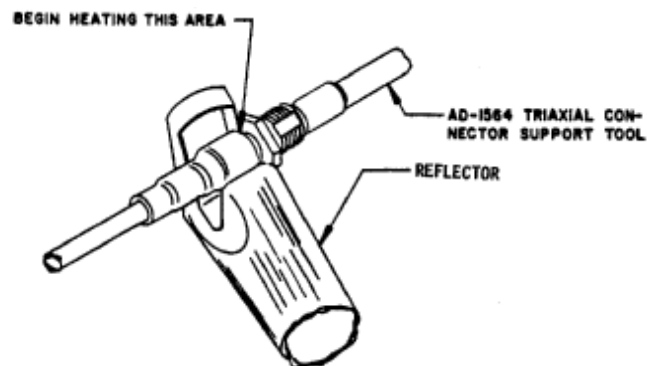

Figure 5-19
- Position the assembly in the heating tool reflector as shown in Figure 5-19, and begin heating at the end of the braid terminator next to the D-621 connector body.